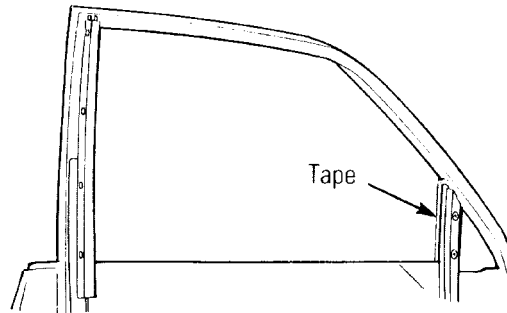

Figure 5
1. Apply tape to cover the gaps between the corner cover and the window glass. (Figure 5)